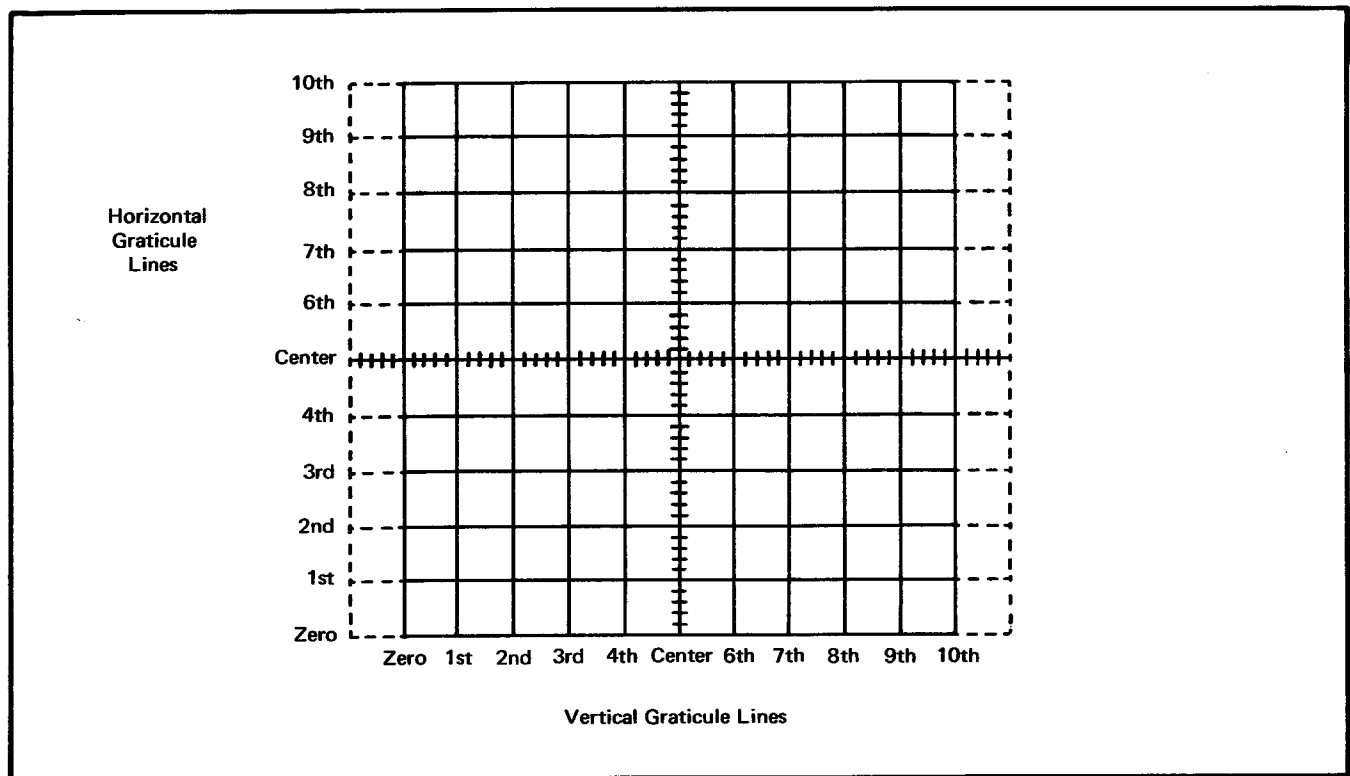

Fig. 5-5. Graticule line labels.
g. CHECK FOR—Trace parallel with the horizontal centerline (see Fig. 5-5).
l. Using the horizontal POSITION control, position the trace on the zero vertical graticule line of the CRT (see Fig. 5-5).
o. Position trace on the tenth solid vertical graticule line (see Fig. 5-5).